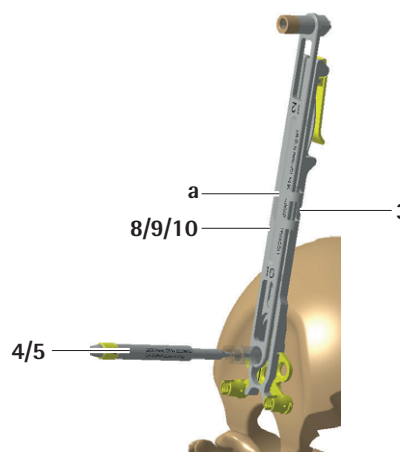

Fig. 4
- ▶ Place the guide 8/9/10 on the plate holder 3, see Fig. 4. Make sure to place the guide with its groove facing upward (it can be used to slide the clamp of the plate holder into it). The teeth of the drill guide should come into contact with the bone.